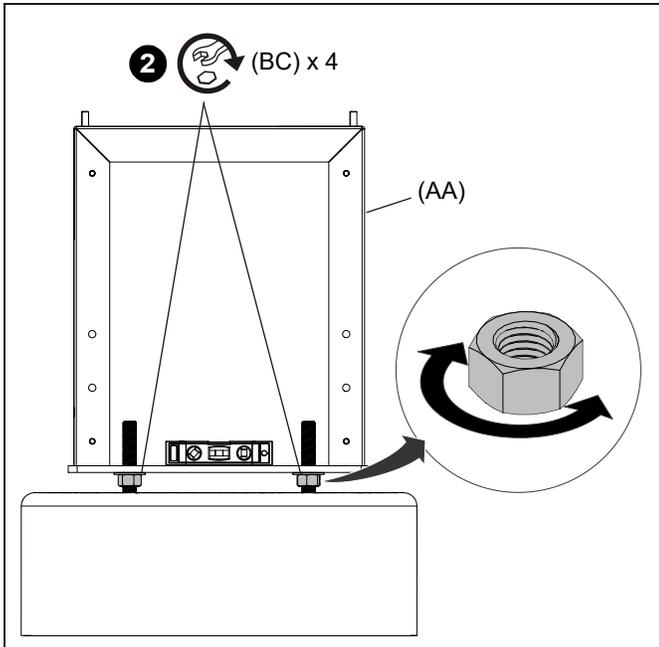

Figure 4
- Adjust the four hex nuts (BC) on the wedge anchors until the base is level. (See Figure 4)